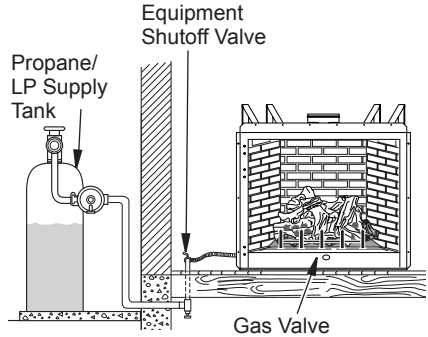
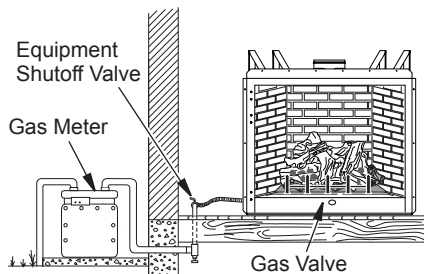

Figure 25 - Checking Gas Joints for Propane/LP Gas Fireplace
Figure 26 - Checking Gas Joints for Natural Gas Fireplace
3. Check all joints from propane/LP supply tank or gas meter to equipment shutoff valve (see Figure 25 or Figure 23). Apply noncorrosive leak detection fluid to all joints. Bubbles forming show a leak.
4. Check all joints from equipment shutoff valve to gas valve (see Figure 25 or Figure 26, page 20). Apply noncorrosive leak detection fluid to all joints. Bubbles forming show a leak. Correct all leaks at once.